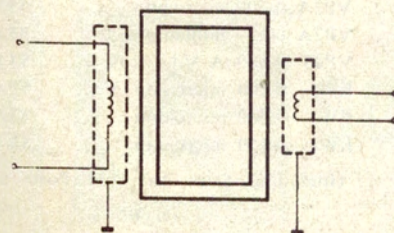

Figure 3. Separated windings on a C-core.
**Separated windings on a C core.** Separation between the windings is in itself sufficient to keep the stray capacitance between primary and secondary to a low value. If, in addition, the windings are provided with a static screen, the stray capacitance can be reduced to as little as a few tenths of a pF. The arrangement is illustrated in figure 3. The drawback is that it involves the manufacture of special transformers which could be rather expensive.